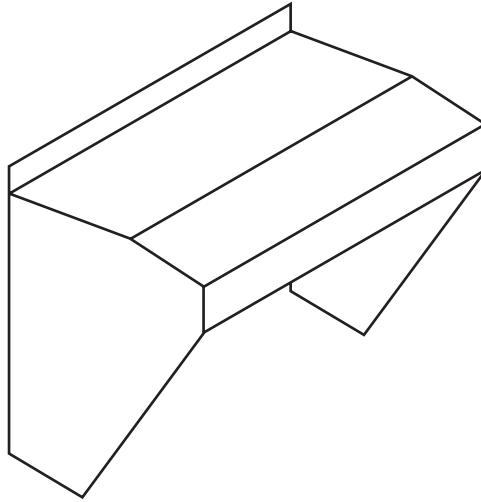

Fig. 5
- 4 The outline of a cover to protect an electric socket is shown in Fig. 5. It is made from metal, and is to be fixed to the outside of a house.